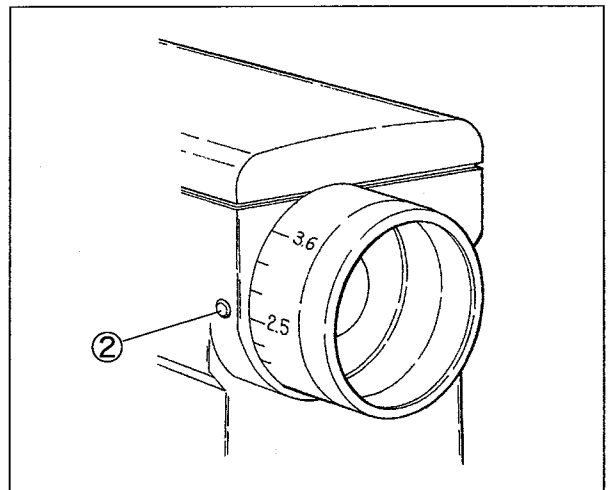

Fig. 30
- (3) Under these conditions, align the desired graduation of the pulley with the mark ② on the machine arm. (Fig. 30)
- (4) Release the push button ①.